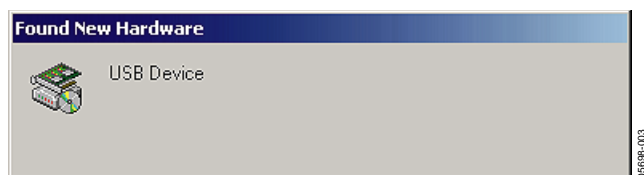

Figure 3.
These jumpers set up the AD9959 for manual or PC control (control through the USB port). Figure 3 shows the correct jumper placements for PC control. For manual control remove jumpers W0, W1, W2, and W3; set W7 on the manual control pin (move jumper one position to the left).
3. When the USB cable is connected, this window appears and then disappears (Figure 3).